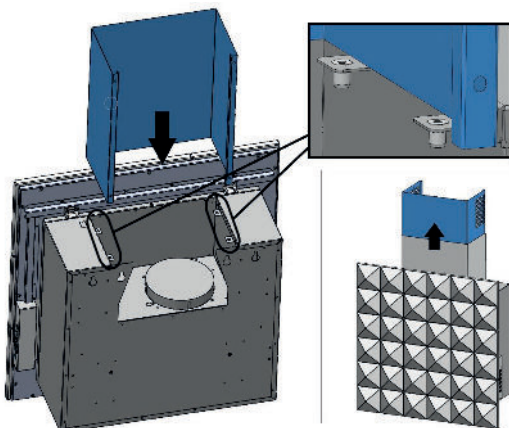

Fig.8
- › Take the inner and outer chimney sections and place on the top of the hood (Fig.8).